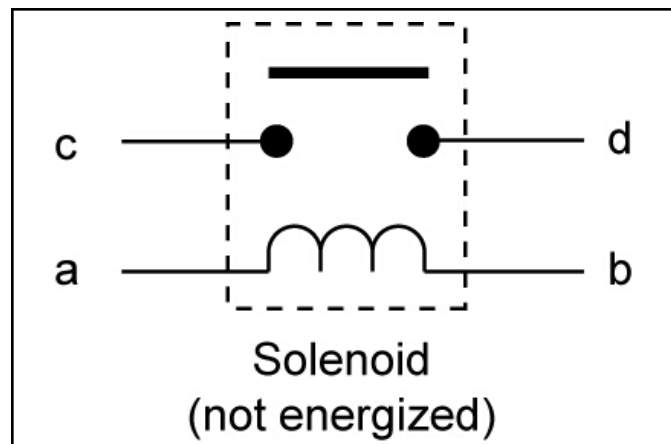

Fig. 127
3. Apply +12 VDC to terminal "a" and ground terminal "b". Terminals "c" and "d" should now be closed (continuity) (Fig. 127).